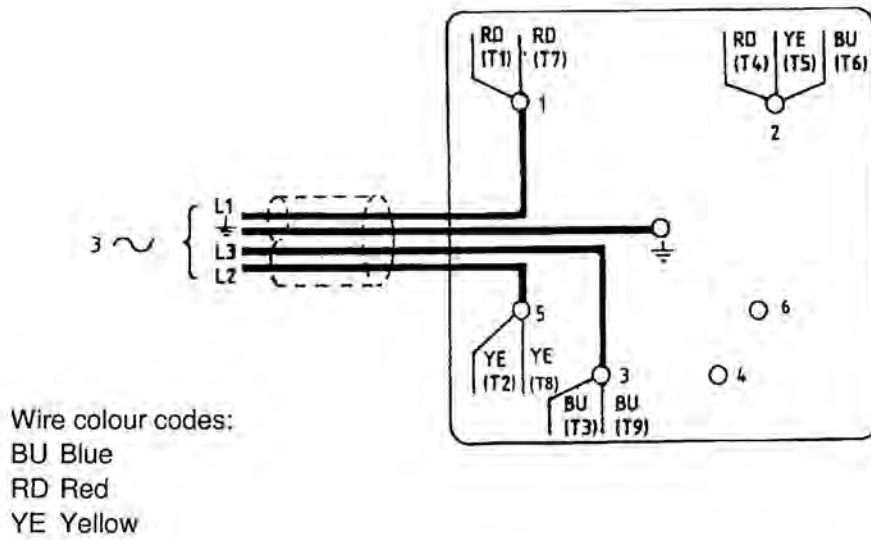

Figure 12 - Electrical supply connection, three-phase motors, (low voltage)
3. Refer to the electrical supply connection diagram for your pump, (Figures 12, 13, 14, 15, 16 or 17). Make sure that the metal links are connected as shown; if they are not, move the links to the position shown.
4. Pass the electrical supply cable through the cable-gland and connect to the appropriate terminals, as shown in Figures 12, 13, 14, 15, 16 or 17.
- Remove the terminal-box cover and swap wires L1 and L3: see Figures 12, 13, 14, 15, 16 or 17, as appropriate.